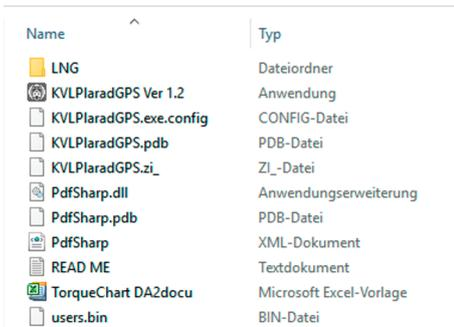

Fig. 25: DTS files
2. ➤ Copy the 11 elements (Fig. 25) associated with the DTS to a folder of the computer file system.